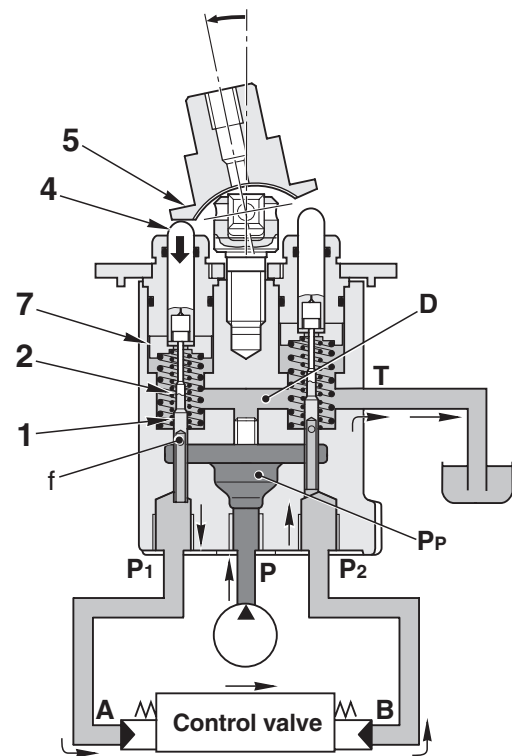

Fig. 2
Therefore, metering spring (2) is compressed proportionally to the amount of movement of the disc (5), so the pressure at Port **P1** also rises in proportion to the travel of the disc (5). In this way, the control valve spool moves to a position where the pressure in chamber **A** (the same as pressure at Port **P1**) and the force of the control valve spool return spring are balanced. (Fig. 2)